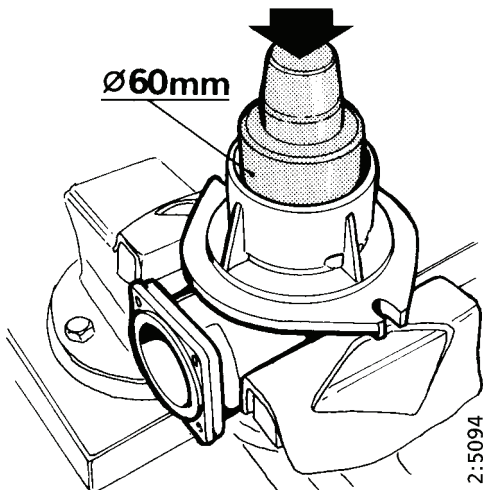

Figure 7-33
2. Mount the pump housing in a soft-jawed vise. Use a drift or tube with an outside diameter of 60 mm and tap a new seal into the housing. Install the seal so that the lip faces out (Figure 7-33).